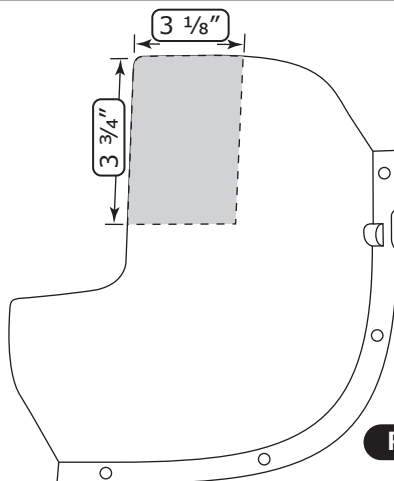

Figure 1
1. The new glove box is made in (2) pieces for easy installation. Install (5) #8 U-nuts in the glove box bottom.
2. Insert the bottom half of the new glove box, securing with only one OEM screw on each side through the dash holes (See Figure 1, below).
3. Insert the top half of the glove box and fasten to the bottom half using (4) #6 x 3/8" pan head screws (See Figure 1, below).
4. Install the glove box door using (3) OEM screws as shown in Figure 1, below.
2. Modify the kick panel fresh air cover as shown in Figure 1, below.